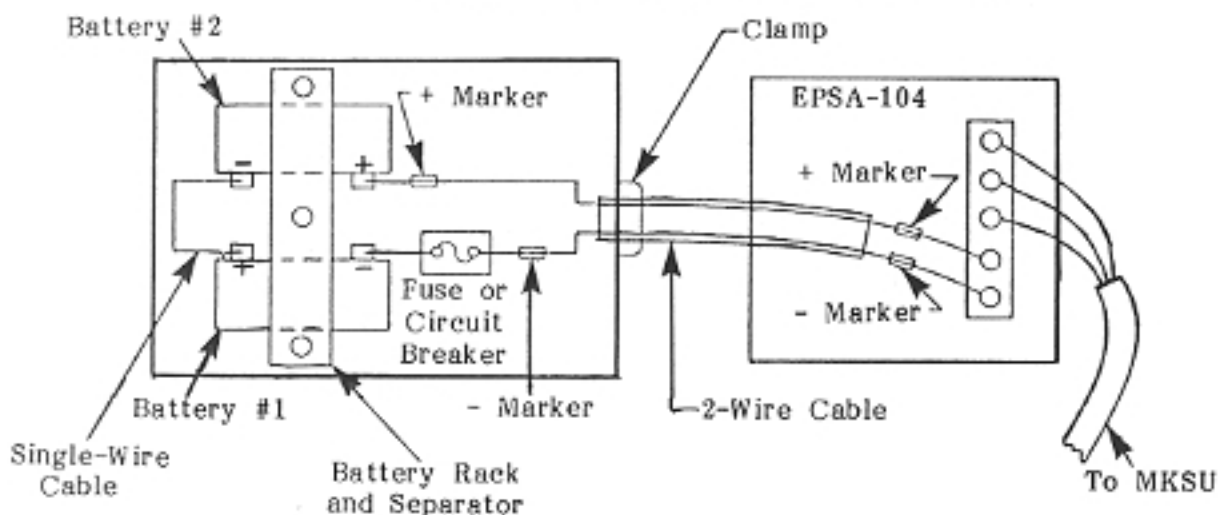

FIGURE 12
02.45 See Figure 12; match positive to positive and negative to negative.
02.49 Connect the two batteries with the single-wire cable—one end to the positive terminal on battery #1 and the other end to the negative terminal on battery #2 (Figure 12).